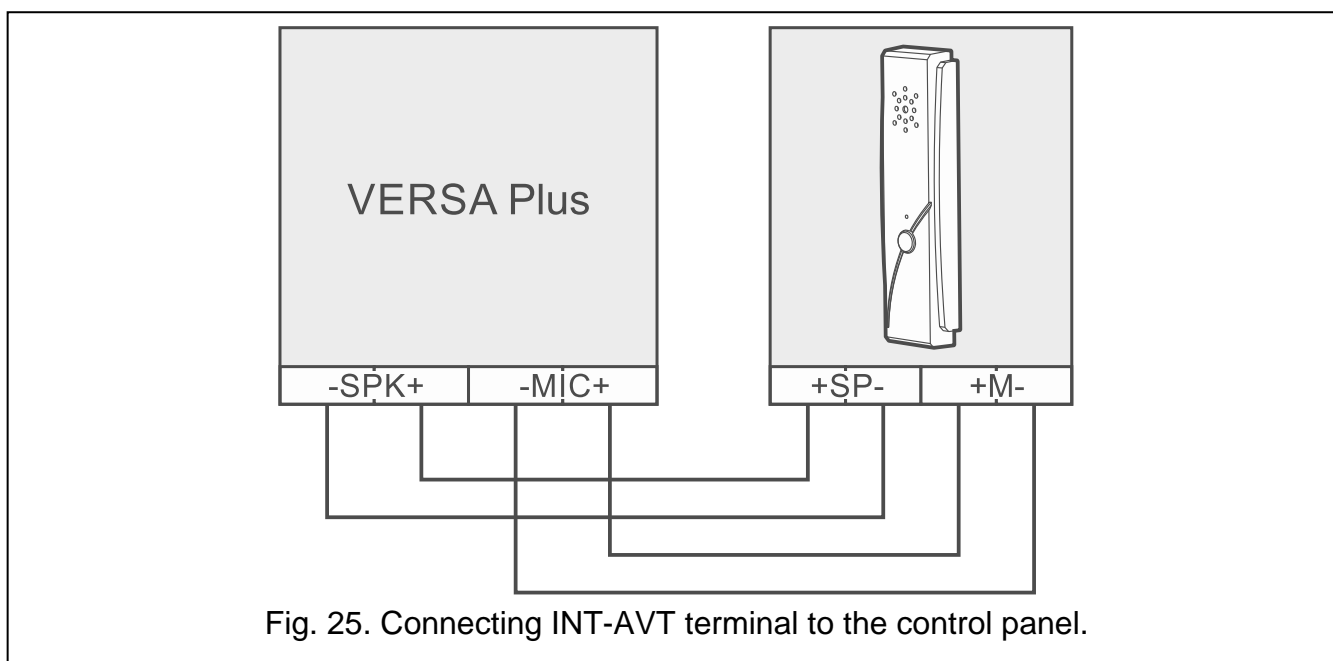

Fig. 25. Connecting INT-AVT terminal to the control panel.
7. Connect the INT-AVT terminals to the corresponding terminals of the control panel (see Fig. 25).